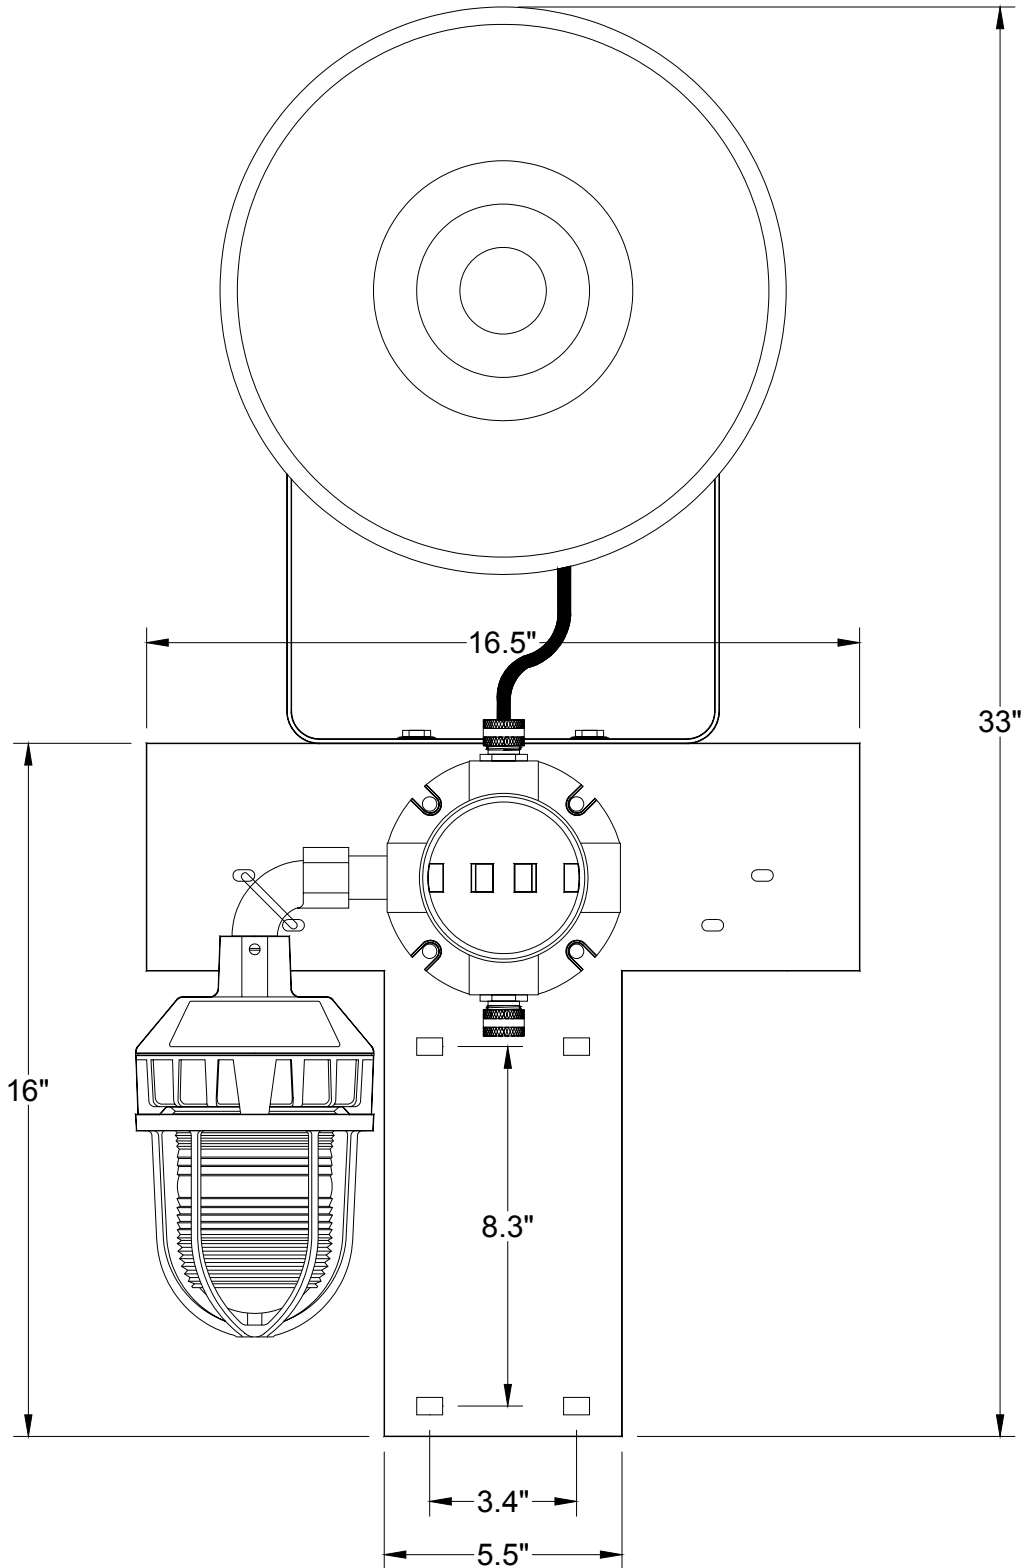

Figure 4 AV1-C1D2M Dimensional
| Figure 4 | AV1-C1D2M Dimensional | 4 |
The assembly is mounted on a T-shaped Aluminum bracket with holes pre-drilled to accommodate (2) U-bolt attachments on a 2.5" maximum diameter pipe. U-bolt size is 3/8-16 x 3 inches. Overall Dimensions are 33"H x 16.5"W x 18.5"D (Figure 4).